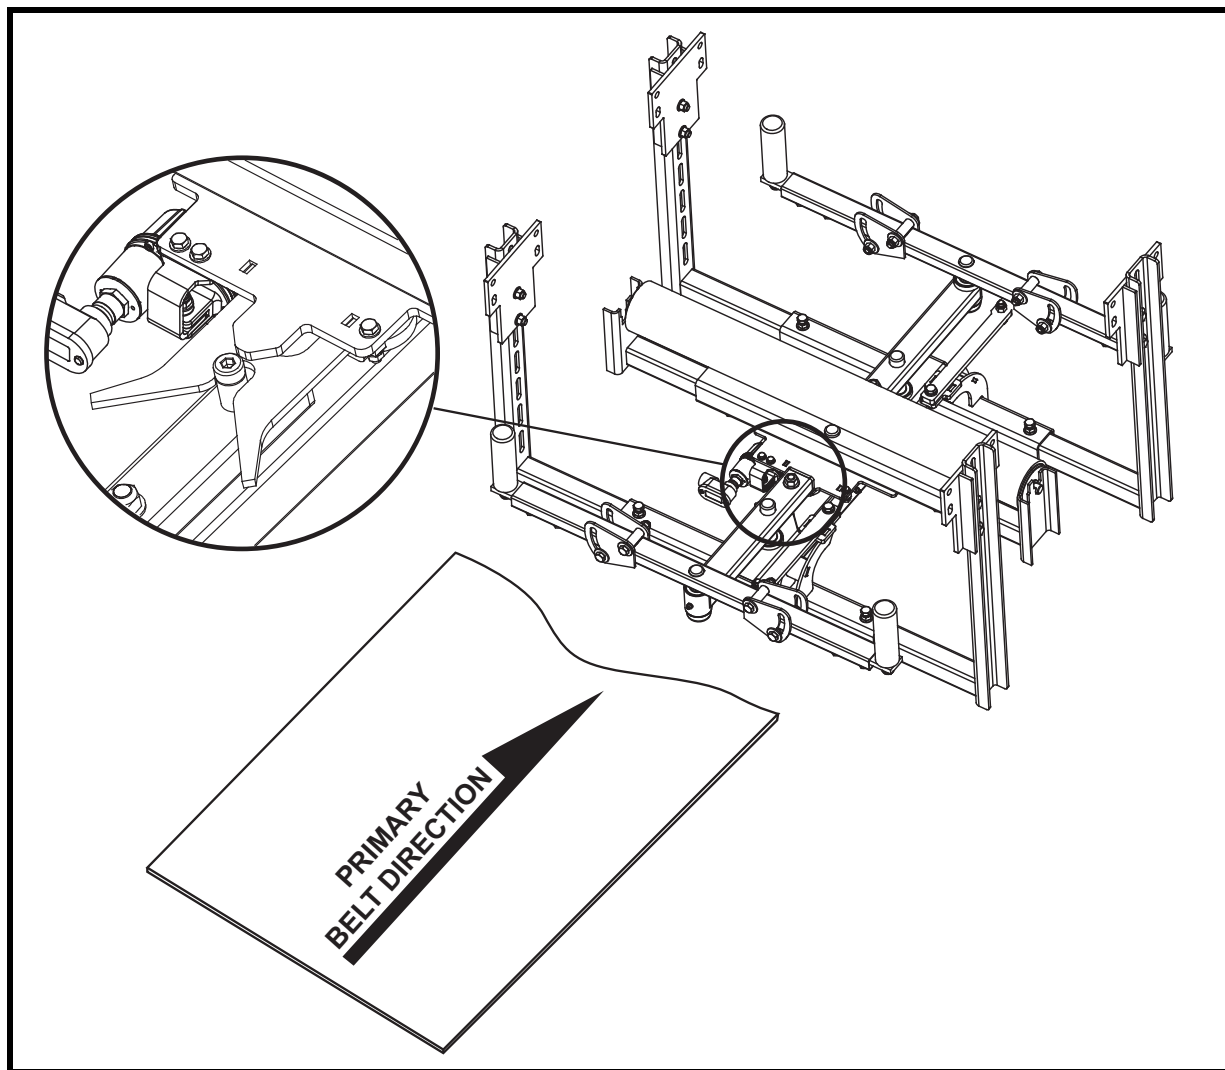

Figure 7. Electric Actuator Switching Mechanism Orientation
4. See Figure 7 for electric actuator switching mechanism installation orientation.